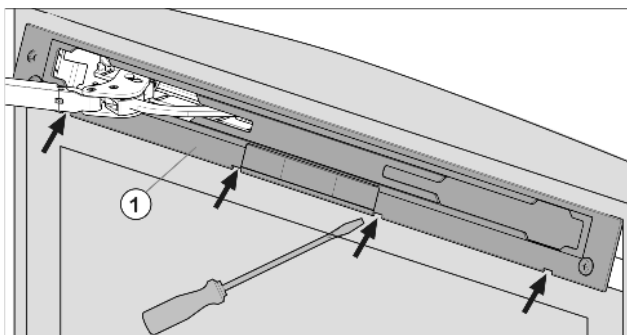

Fig. 54
- ▶ Release panel Fig. 54 (1) using slotted screwdriver and remove.